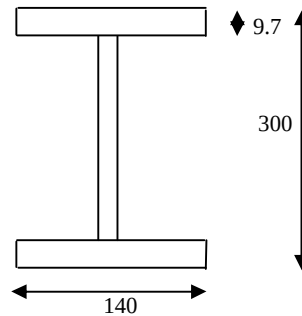

Figure 1
- Q.1 (a)** State and prove with usual notations Castigliano's first theorem. (07)
- (b)** Explain Flight envelop diagram. (07)
- Q 2 (a)** A beam of size 500 x 230 mm is subjected to a bending moment of 20 kN m at an angle 60° wrt x axis. (i) Locate the Neutral axis and (ii) find stresses at all corners. (07)
- (b)** An ISMB 300 x 140 beam as shown in figure 1 carries at a certain section, a bending moment M , the trace of the plane of loading being inclined at 25° to the y axis. If, $I_{xx} = 8606 \text{ cm}^4$ and $I_{yy} = 453.9 \text{ cm}^4$, Find M if permitted bending stress is 140 MPa. (07)
- Q 2 (a)** Locate shear center of a semicircle section having thickness t and radius R . (07)
- (b)** A quadrant ring beam of radius r supports a concentrated load P at the free end, calculate vertical & horizontal deflection at free end. (07)
- Q.3 (a)** The vertical shear action on an ISMB 300 x 140 beam as shown in figure 1 is 175 KN. Find the shear flow and shear center of the section. Assume thickness in flange as 9.7 mm and thickness of web 6.7 mm. $I_{xx} = 8606 \text{ cm}^4$ and $I_{yy} = 453.9 \text{ cm}^4$. (07)
- (b)** What do you understand by unsymmetrical bending? Explain the torsion of thin walled closed sections. (07)